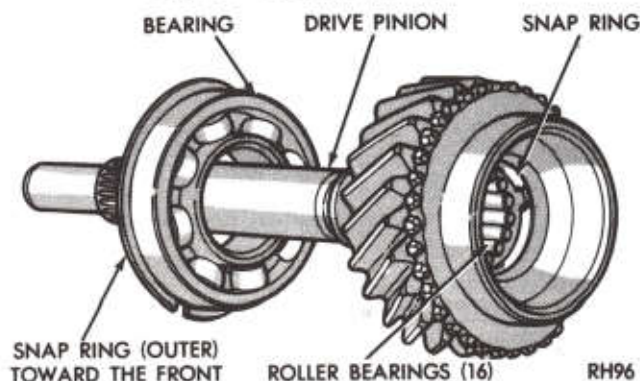
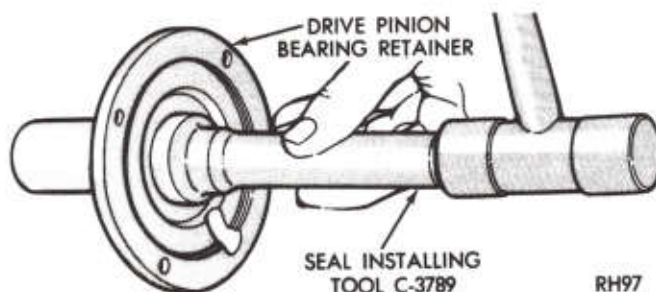

Fig. 27—Drive Pinion Assembly
Fig. 28—Install New Oil Seal
(5) Press drive pinion bearing on pinion shaft. Be sure outer snap ring groove is toward front (Fig. 27). Seat bearing fully against shoulder on gear.
(6) Install a new snap ring on shaft to retain bearing. Be sure snap ring is seated. This snap ring is a select fit for minimum end play.
(7) Place pinion shaft in a vise (with soft jaws), then install 16 bearing rollers in cavity of shaft. Coat bearing rollers with grease, then install bearing retaining snap ring in its groove.
(8) Using Tool C-3789 (Fig. 28), install a new oil seal in retainer bore.